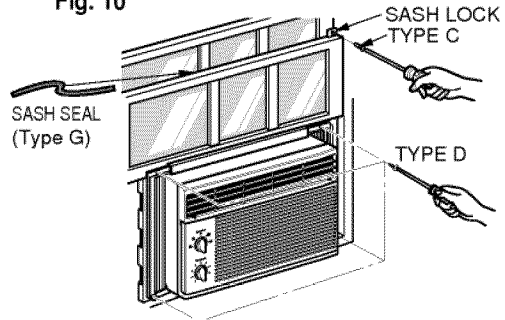

Fig. 11
Extend the guide panels to fill the window opening using 4 screws (TYPE D) to secure them, as shown in Fig. 11.
- a. Cut the sash seal to the window width. Stuff the sash seal between the glass and the window to prevent air and insects from getting into the room, as shown in Fig. 11.
- b. Fasten the sash lock using a TYPE C screw, as shown in Fig. 11.